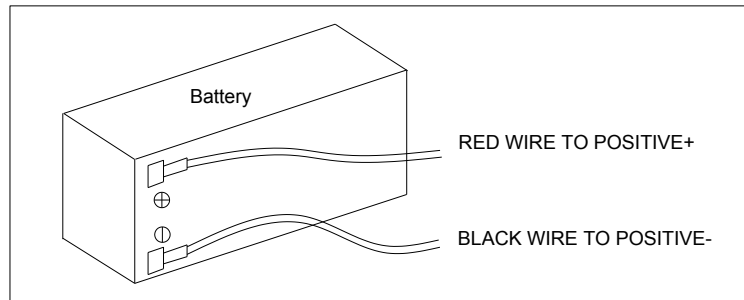

Figure 7b.
8.2 - Wiring the Battery (see Fig.7b)